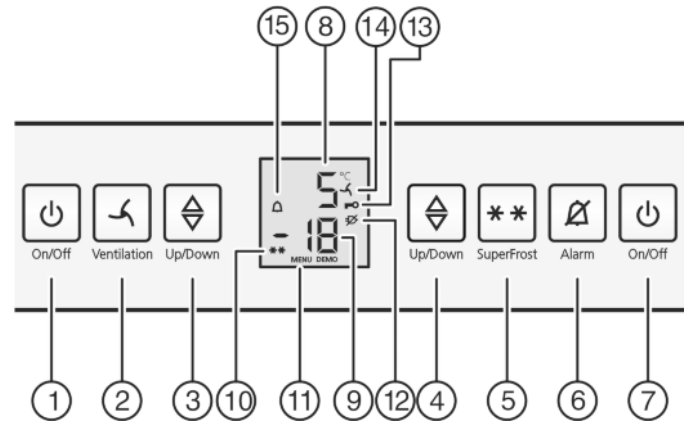

Fig. 2
- Press the freezer On/Off Fig. 2 (7) button.
- ▶ Press the fridge On/Off *Fig. 2 (1)* button.
- ▶ Activate setting mode: press the SuperFrost button *Fig. 2 (5)* for approx. 5 seconds.
- ▷ The Menu symbol *Fig. 2 (11)* is shown on the display.
- ▶ Briefly confirm with the SuperFrost button, *Fig. 2 (5)*.
- ▷ The child lock symbol *Fig. 2 (13)*, lights up on the display.
- ▶ Briefly press the freezer compartment On/Off button *Fig. 2 (7)*.
- ▷ The child lock symbol *Fig. 2 (13)* goes out.
The temperature display and the alarm symbol *Fig. 2 (15)* flash at the same time.
The audible alarm is automatically silenced, the alarm symbol *Fig. 2 (15)* goes out and the temperature display stops flashing when the temperature is sufficiently cold again.
- ▶ Press alarm button *Fig. 2 (6)*.